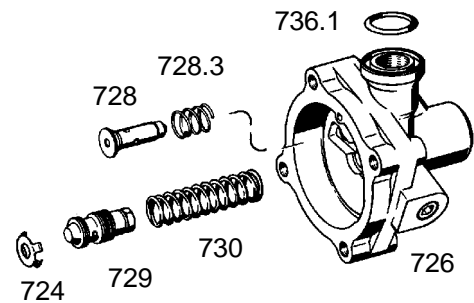

Fig. 6
Remove the O-ring (736.1) (**Fig. 6**).
Reusable throttle inserts (728) can be recognised in that they, like the valve spool (729), are held in their final position by the spring cap (724) (**Fig. 6**).